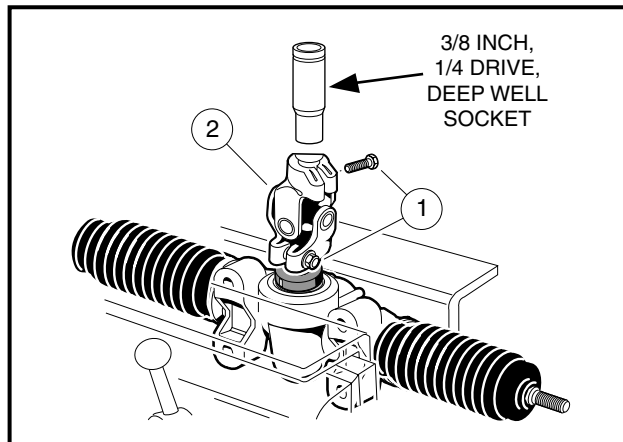

Figure 7-23 Rack and Pinion Resistance
10. Insert a 3/8-inch, 1/4-drive, deep-well socket into the steering column end of the universal joint (2) and tighten the bolts (1) to 15 ft-lb (20.3 N·m) **(Figure 7-23, Page 7-14)**.